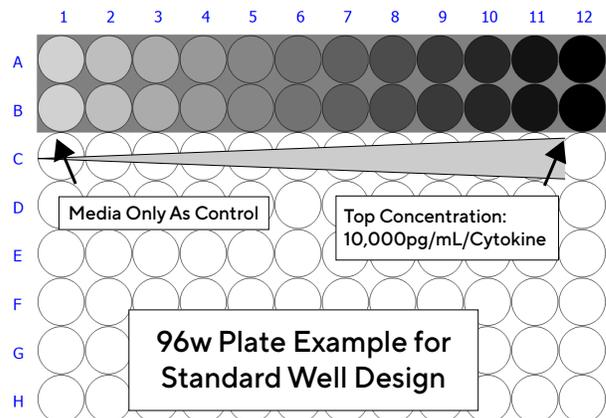
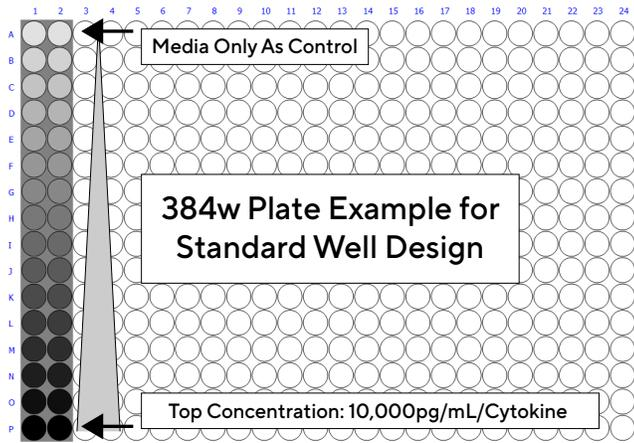

Figure 5. Recommended 96 well plate layout.
Figure 6. Recommended 384 well plate layout.
5.1 Design assay plate layout (**Figure 5** for 96-well plate and **Figure 6** for 384 well-plate). A template with the recommended standard design is already in provided in the kit USB drive.
Note: Wells in white in **Figure 5** and **6** are wells to contain your samples.
- For 96-well plates see **Figure 5**.
- For 384-well plates see **Figure 6**.Note: For samples with low cell density, adjustment to sip times may be required in the iQue Forecyt® Protocol section. See **Page 13, General Guidelines → Troubleshooting Low Cell Density → 3. Optional Protocol: Adjust Sip Time to collect sufficient cell events**.